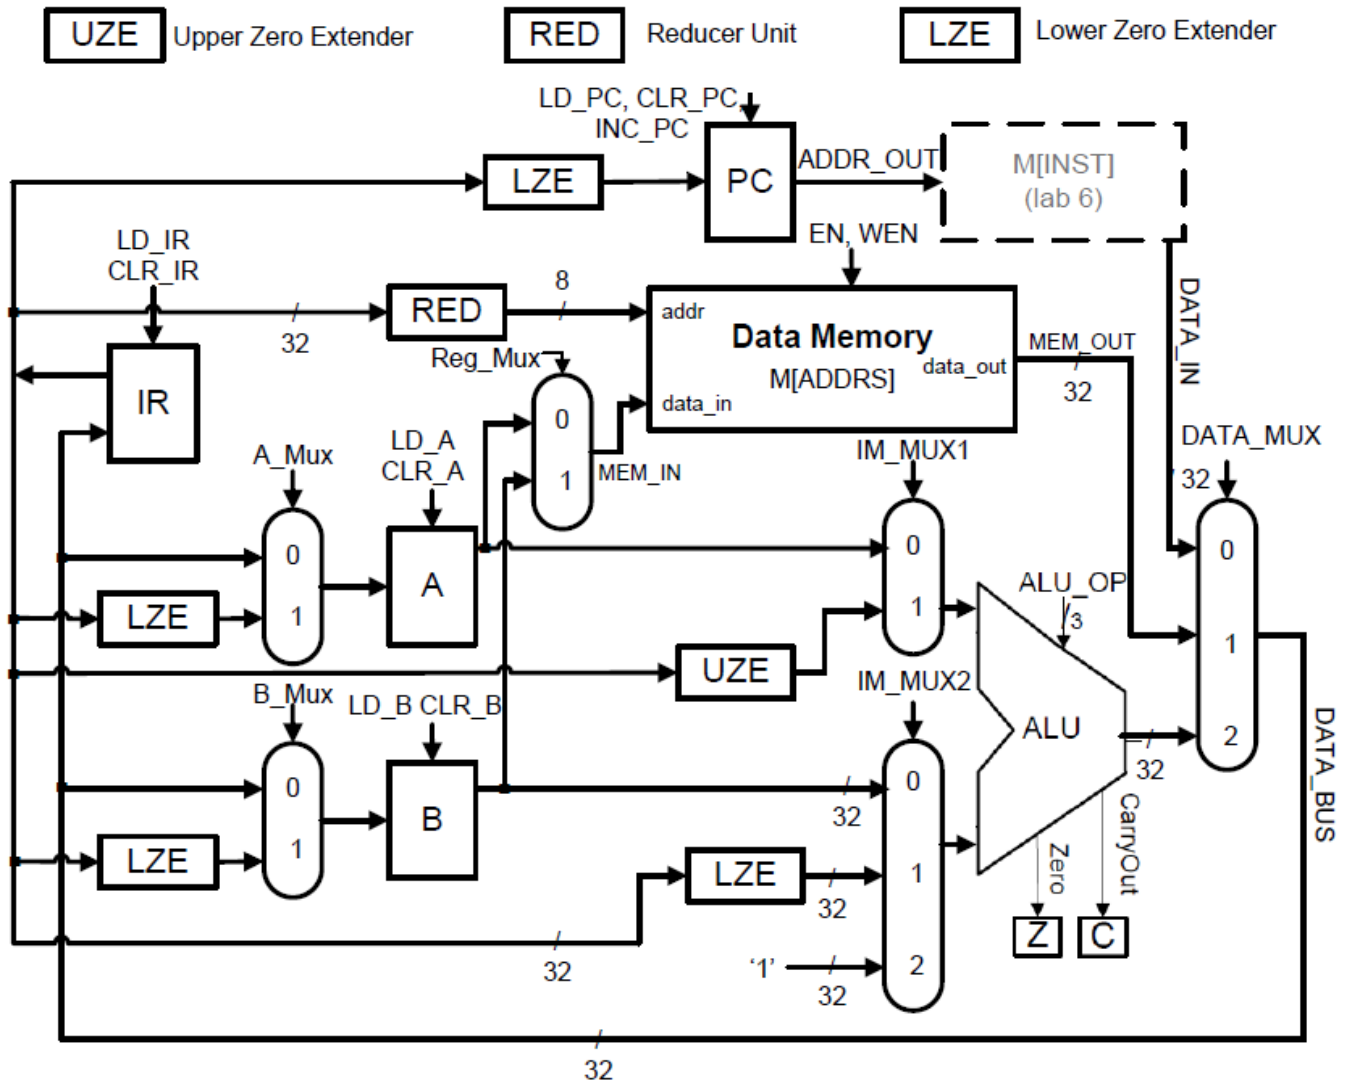

Figure 1: CPU Data-Path
The objective of this lab is to build and test the data-path for a 32-bit processor. Students have designed and unit tested most of the components (PC, Registers, data memory and ALU) required for data-path in the previous labs. The block diagram of the data-path is illustrated in Figure 1. In this lab, students will interconnect these components together to create the CPU's data-path. Sufficient testing will also need to be done to ensure that the CPU data-path functions correctly. CPU specifications are described in another document, *CPU Specification* which is available on the lab webpage which outline instruction specification to help you assert the correct control signals for testing. Note that the *Instruction Memory*, M[INST] will be implemented in Lab6.
Students will implement the CPU data-path of Figure 1 in VHDL. You may use the previously designed components such as the PC, Registers, ALU and Data-Memory unit by instantiation using the component and "Port Map" command. The CPU data-path declaration should look similar to what is given in the following:
Note that six multiplexers (four 2-to-1 multiplexers and two 3-to-1 multiplexer) are present in the data-path of Figure 1 and they are presented as separate components. However, this need not be the case; you are free to implement the multiplexers either as if-else statements inside your main VHDL file, or you may create a separate component (VHDL file) for the multiplexers (as you did for the ALU, PC and registers) and then instantiate these multiplexers into your design.
The CPU datapath makes use of two types of zero extenders, for immediate operations and for loading addresses into the Instruction Register (IR). In the case of Load Upper Immediate (LUI), the lower 16-bits of the IR are loaded into the upper 16-bits of register A (i.e. A[31..16]). Therefore UZE must be used that places the LSB16-bits of IR as the MSB 16-bits at the destination. To implement LUI, LZE is used as the first input of the ALU while clearing B, adding the two values together, and storing the final result in A. For the other immediate operations (ADDI, ORI), the lower 16 bits of the IR are used as the second operand, and make up the lower portion of the operand (bits 15..0). In all the cases, the remaining 16 bits are filled with 0s. Students should consult the data-path of Figure 1 and the *CPU Specification* document for implementing these particular instructions.